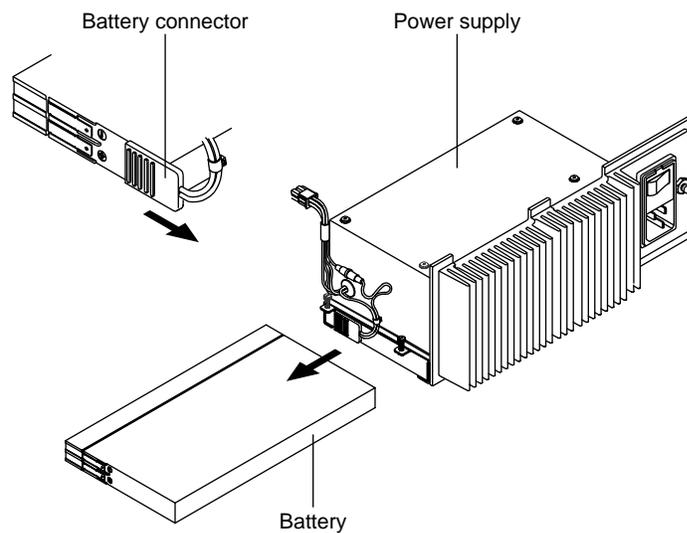

Figure 6-14: Removing Lead-Acid Battery
3. Disconnect the battery connector from the battery as illustrated in Figure 6-14. Slide the battery away from the power supply.